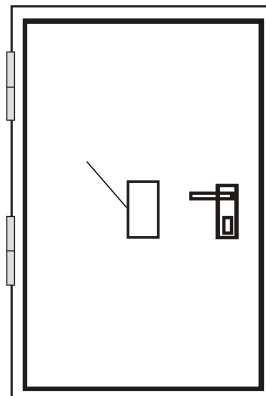

Figure 5 - Monitoring a hollow wooden door
- for wooden structures (Figures 5, 6) – by means of wood screws or self-driving screws;